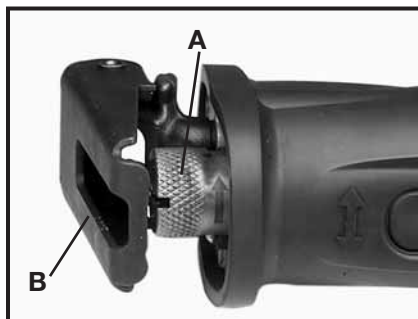

Fig. 1
1. The reciprocating shaft must be fully extended to permit access to the keyless *Quik-Change*™ blade release collar (A) Fig. 1. If necessary, plug the saw in and gently squeeze the trigger switch to move the reciprocating shaft to its outermost position (as shown in Fig. 1).
2. Pivot the guide shoe (B) Fig. 1, forward to improve access to the blade clamp.